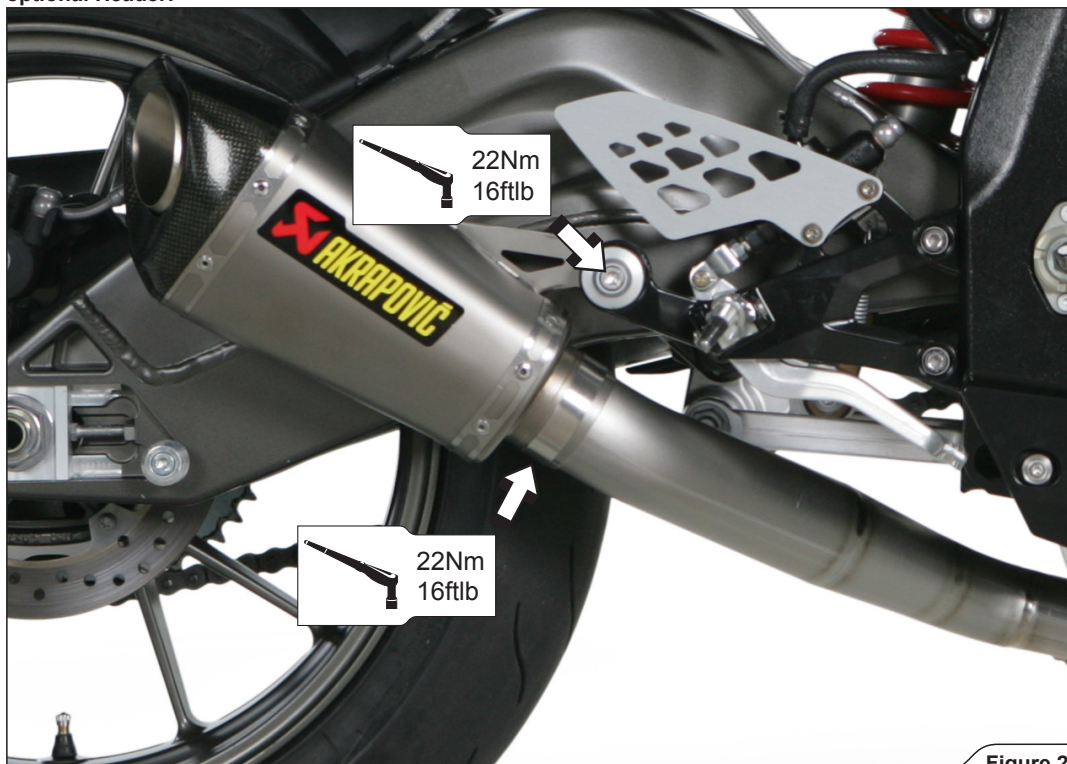

Figure 24
8. Replace the Slip-On muffler's intake clamp with the clamp from optional Header installation kit (clamp without brackets for heat shield). Slide the muffler onto the link pipe. Align the muffler in respect to the motorcycle, tighten the muffler to the bracket (using stock bolt and aluminium washer and additional Akrapovič nut and washer) and tighten the clamp at the muffler - link pipe joint, to the specified torque (**Figure 24**).